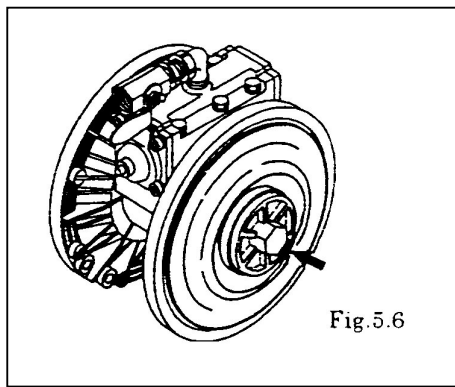

Fig.5.6
- Remove the centre disk from one side using the PP wrench (special tool: Part No. 771868). [Fig. 5.6]